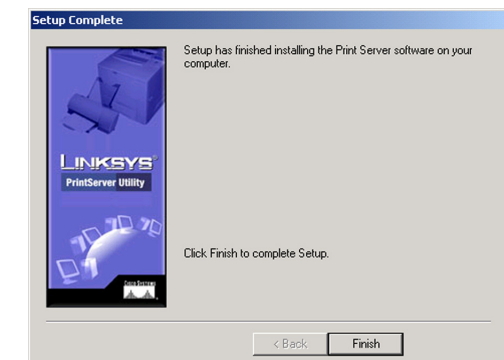

Figure 8-5: Setup Complete
6. When the Bi-Admin is installed, the Setup Complete screen, Figure 8-5, will appear. Click **Finish** to continue.